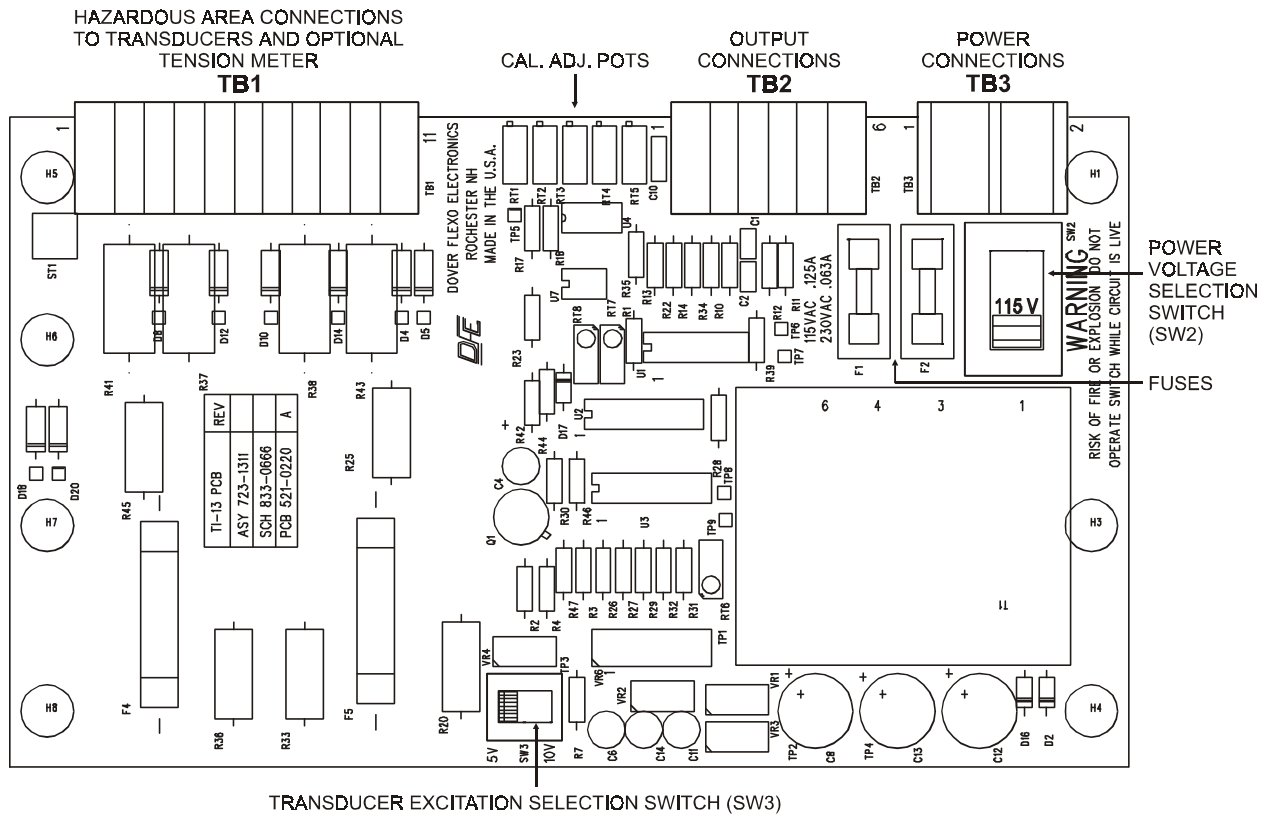

Figure 4 - FireGuard™ POWER BOARD
5. Remove the unit's cover using the two mounting screws shown in Fig.4. Then remove the six mounting screws holding the interior panel assembly to the enclosure also shown in Fig. 4. Then remove the interior panel assembly.
6. Verify that your unit is set up for the correct line voltage. FAILURE TO DO SO MAY RESULT IN PERSONAL INJURY OR DAMAGE TO THE UNIT. See Fig. 4 for location of the switch to select between 115Vac and 230Vac operation. Also verify that the correct value fuses are installed based upon your line voltage selection:
7. Verify that the transducer excitation voltage selection switch (see Fig. 4) is set up for the type of transducers you intend to use. Switch to 5V for all DFE transducers except Low Tension Transducer, and 10V for those having the Extended Range option. For LT Transducers, make sure R47 is installed and SW3 is in the 10V position. **INCORRECT SETTINGS MAY RESULT IN PERSONAL INJURY OR DAMAGE TO THE UNIT OR TRANSDUCERS.**
Check the wiring to the meter. Check for output on the 0-10V output, if no voltage exists then check the AC connections to the terminals on the Power PCB of the FireGuard™. Check the fuses inside the unit (See Fig. 4 page 6). There may also be a problem with the 5V power supply inside the unit.